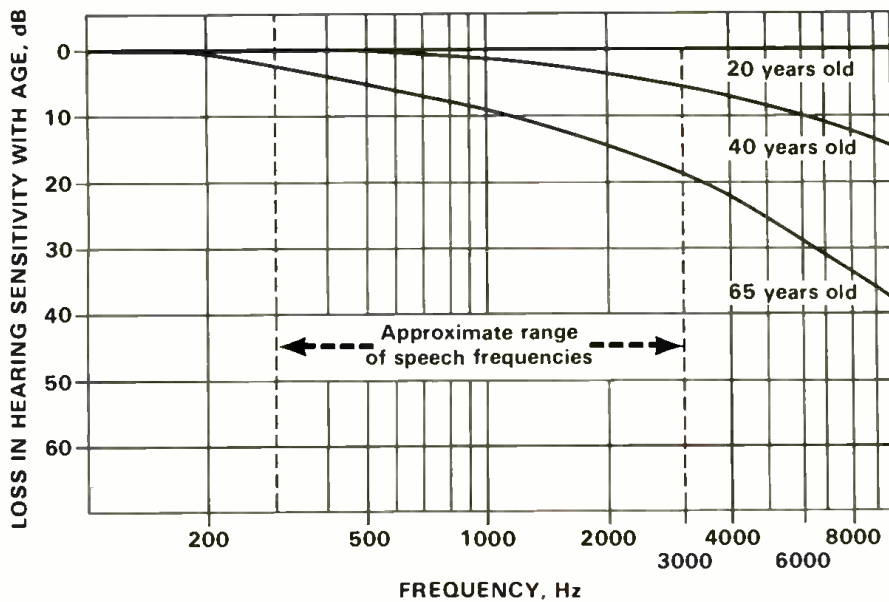

Figure 1. Audiograms showing the typical reduction of hearing sensitivity with increasing age. The approximate range of speech frequencies is shown.
dB SPL (A). The continued exposure to higher levels and/or at longer durations can cause damage to the entire body. What is most disturbing clinically is that the damage to the hearing mechanism constantly increases over a long time frame, reducing the awareness of any change in level, while the rest of the body is being impacted. Damage attenuates hearing perception. (Figure 1)